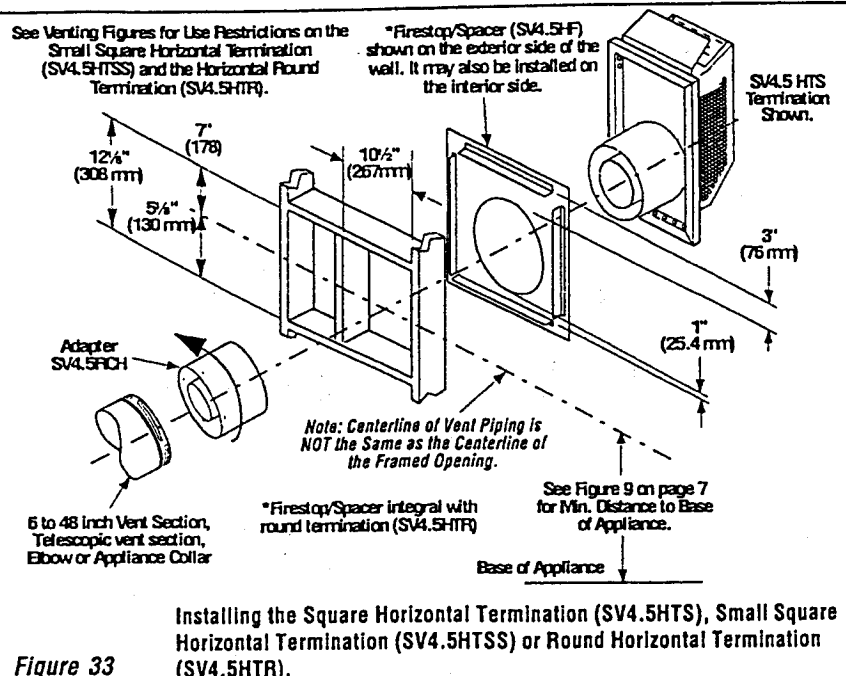

Figure 33
If the terminus of the last section is not within this distance, use the telescopic vent section SV4.5LA, as the last vent section. For wall thicknesses greater than that shown in *Figure 33*, refer to *table 4 on page 17*. This table lists the additional venting components needed (in addition to the termination and adapter) for a particular range of wall thicknesses.
K. Attach termination adapter - Attach the adapter (adapter - SV4.5RCH - provided with the termination) to the vent section or telescoping vent section), elbow or appliance collar as shown in *Figure 33* in the same manner as any SV4.5 vent component (refer to Step E).
L. Install Firestop/Spacer at exterior wall - When using the square termination, install SV4.5HF (Secure Vent), SF4.5HF (Secure Flex) Firestop/Spacer over the opening at the exterior side of the framing, long side up, with the 3 inch spacer clearance at the top as shown in *Figure 33*, and nail into place.